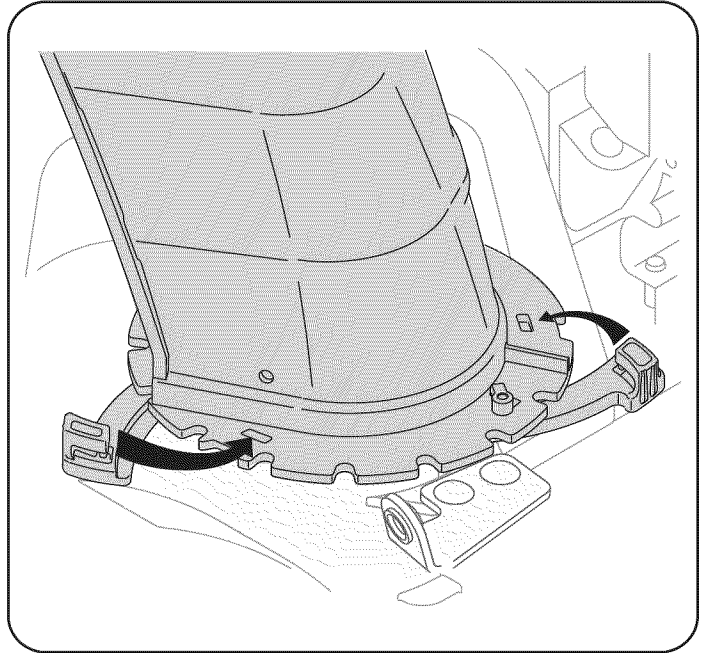

Figure 5
6. Close the flange keepers to secure the chute assembly to the chute base. See Figure 5. The flange keepers will click into place when properly secure.